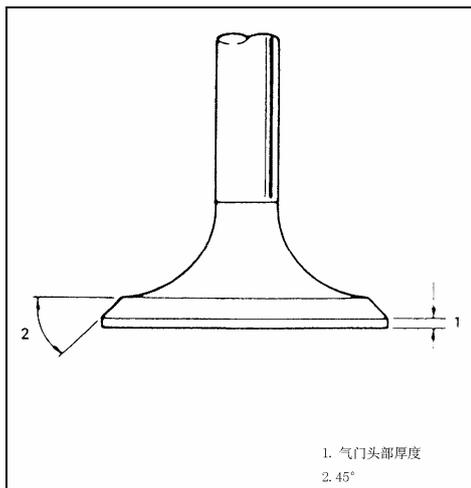

Fig. 4-163
3) as fig. 4-163 shown, measure thickness of valve head. If the thickness is out of limit, replace